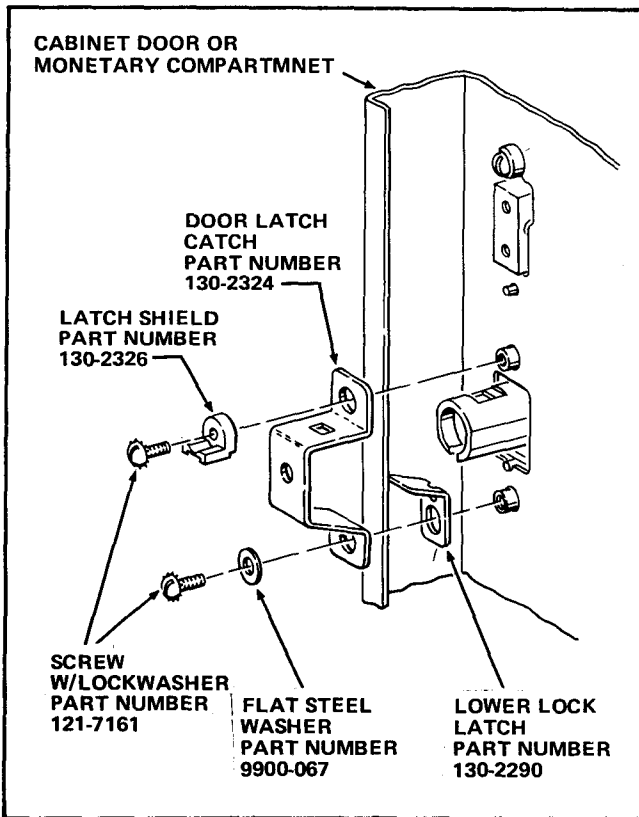
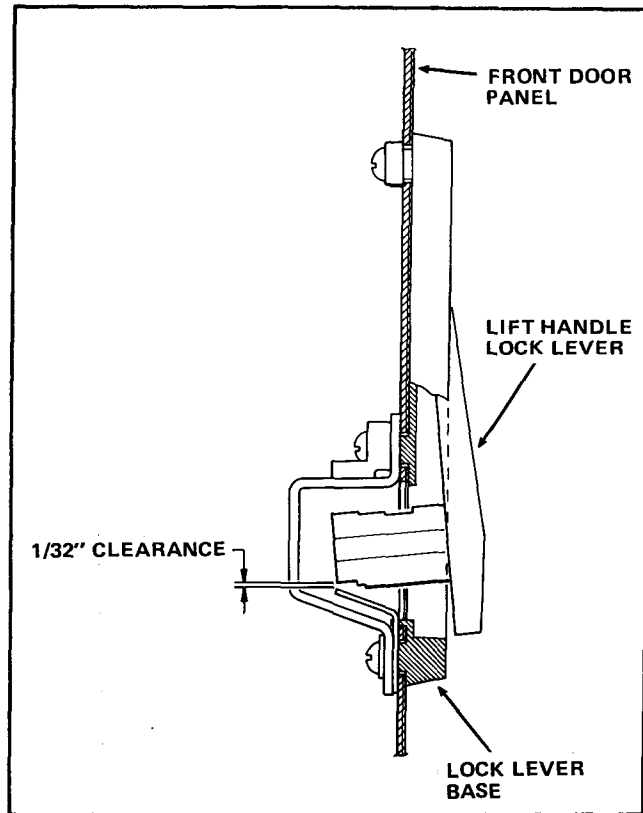

FIGURE 6
FIGURE 7
3. Install the Lower Lock Latch, part number 130-2290, and Door Latch Catch, part number 130-2324 (both of which are included in the Kit). Attach the parts with the Flat Steel Washer, part number 9900-067, and the remaining Screw/Lockwasher, part number 121-7161, both of which are included in the Kit. See Figure 6. See Figure 7 for the proper space adjustment of the Lower Lock Latch.
4. Install the Latch Shield, part number 130-2326 included in the Kit, and attach the Door Latch Catch (step B-3) and the Latch Shield with one of the Screws/Lockwasher removed in step A-3. See Figure 6.